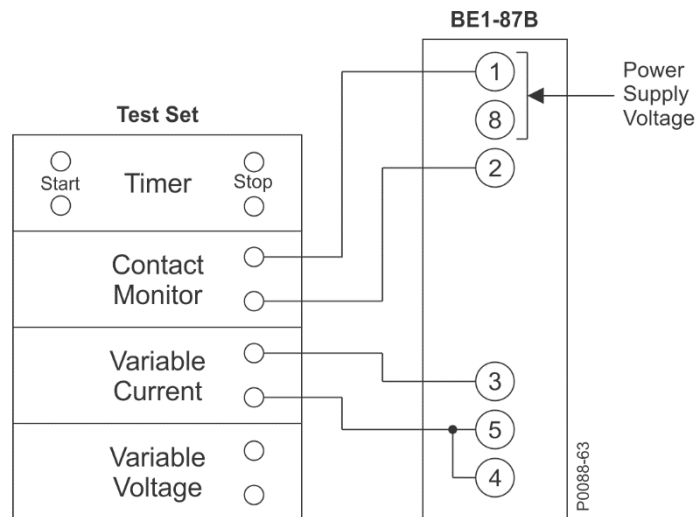

Figure 17. Pickup Current Test Setup
1. Connect the test circuit as shown in Figure 17.